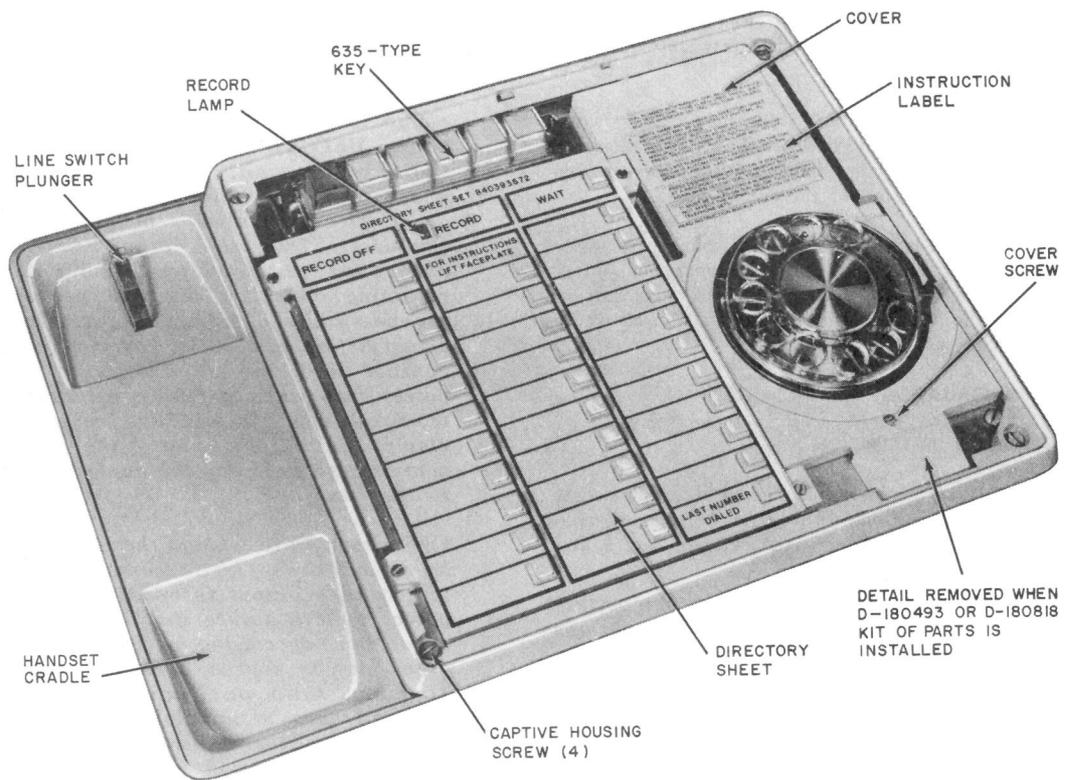

Fig. 2—872A1M Telephone Set—Faceplate and Handset Removed
2.06 Operating Features (Fig. 2).
- Line key (635BT5), 6-button key. Hold with five line pickup buttons which are convertible to nonlocking. An additional momentary contact (logic reset switch) is attached to the hold side of the key to reset the logic circuit anytime a key button is depressed.
3.05 The directory sheets (Fig. 2) fit over the buttons of the memory and are held in place